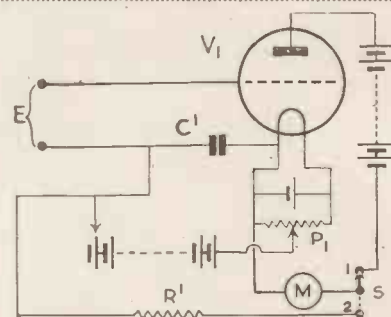

Fig. 5b. The triode slide-back valve voltmeter.
The Triode Slide-back Voltmeter (Fig. 5b). One method which was used in order to render the slide-back method more sensitive was to use a triode instead of a diode. So far as this intention is concerned, it is doubtful if there is any advantage, since in order to obtain any increase in sensitivity over the diode, it is necessary that the "slope" (G) of the triode, expressed in mA/V, should be greater than $1/R$ where R is the anode resist-
* A recent version of this instrument gets over the initial current difficulty by using a gas-filled (preferably helium or argon) triode, in which case a peak voltage exceeding the cut-off value of bias by a very small amount causes the full value of anode current to flow immediately. The limiting factor on accuracy here is the constancy of the "firing point" of the gas triode. The circuit is otherwise identical with that given in Fig. 5b.